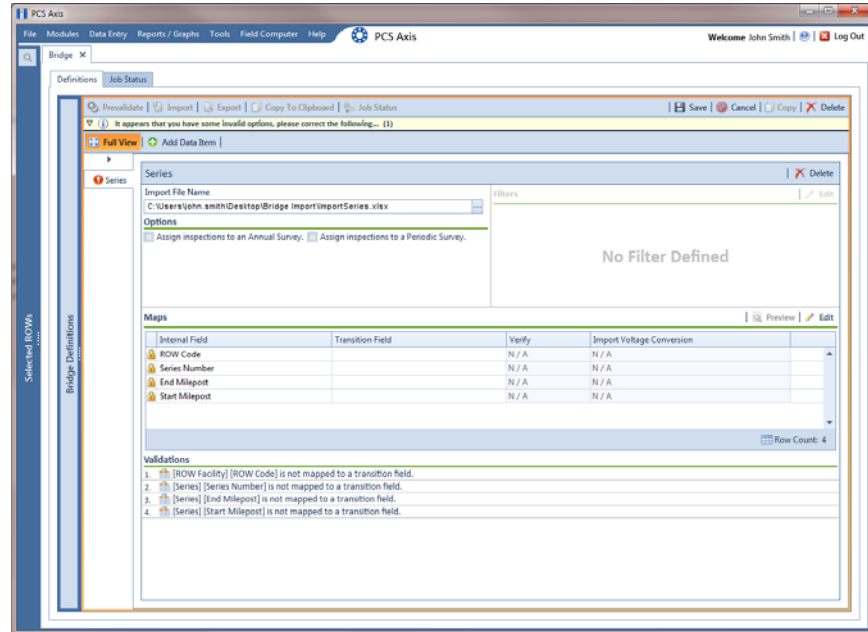

Figure 10-52. Definition
- 8** Identify the location of the import transition file using the following steps (Figure 10-52, page 508):